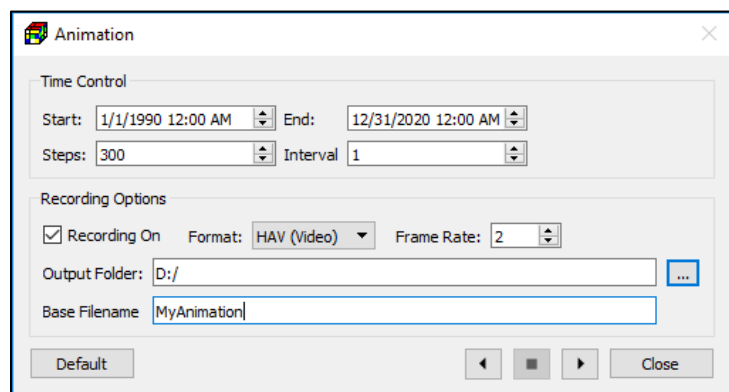

Figure 36 The Animation dialog box
Displays the Animation dialog box (Figure 36) that allows you to run animations with the model data and optionally save animations into video files or sequences of image files.
- **FFmpeg:** FFmpeg is a free, open-source multimedia tool used to process, convert, and compress audio and video files. It is required for creating WebM videos using the Animation dialog box (Figure 36) and can also be used to convert recorded videos to other formats. The FFmpeg executable distributed with PM is licensed under the GNU Lesser General Public License (LGPL). A copy of the LGPL license is included with the PM installation and is located in the directory containing the FFmpeg executable.